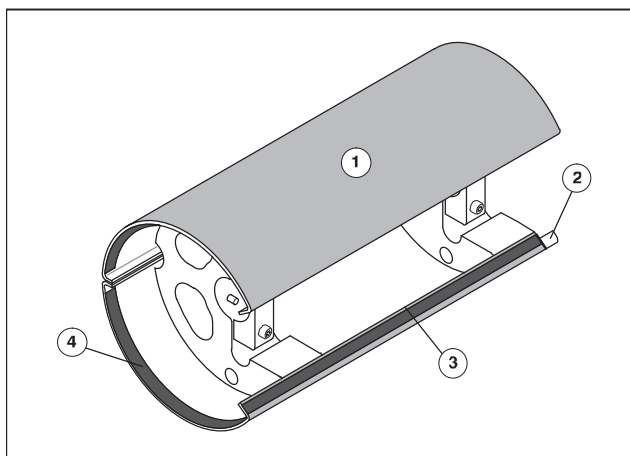

Fig. 23 Super Blue delivery drum
1. **Before cleaning** the base cover, cautiously remove the Super Blue net (Fig. 23/1) from the base cover.
2. Loosen the Super Blue net at the inside surfaces of the sheet-metal jackets (Fig. 23/4) and at the rear edge.
3. Inch the press forwards up to the front edge (Fig. 23/3) of the Super Blue net.